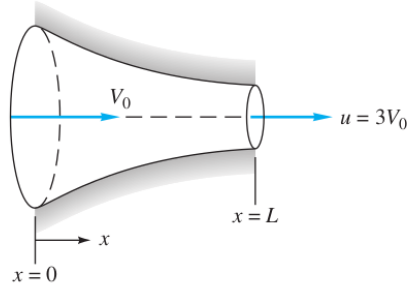

Fig. 4.1
4.1 Flow through the converging nozzle in Figure 4.1 can be approximated by the one-dimensional velocity distribution
4.4 Derive the equation for cylindrical coordinates (Eq. D.2) by considering the flux of an incompressible fluid in and out of the elemental control volume in Fig. 4.1.